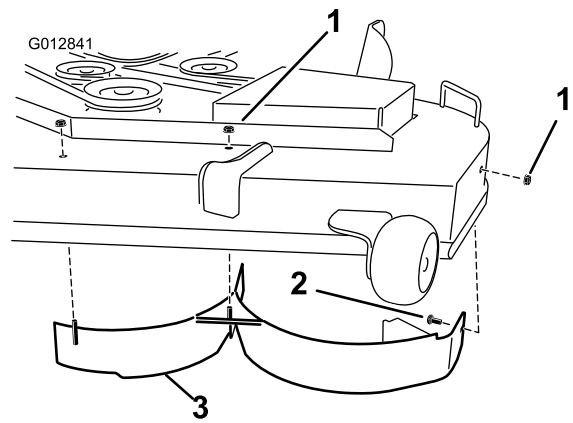

Figure 32
6. Remove the two locknuts (5/16 inch) secured to the welded posts of the left baffle on the top of the mower deck at the center and left of center positions (Figure 32). Remove the carriage bolt and locknut on the side wall of the mower deck securing the left baffle to the deck.
7. Remove the left baffle from the mower deck as shown in Figure 32.